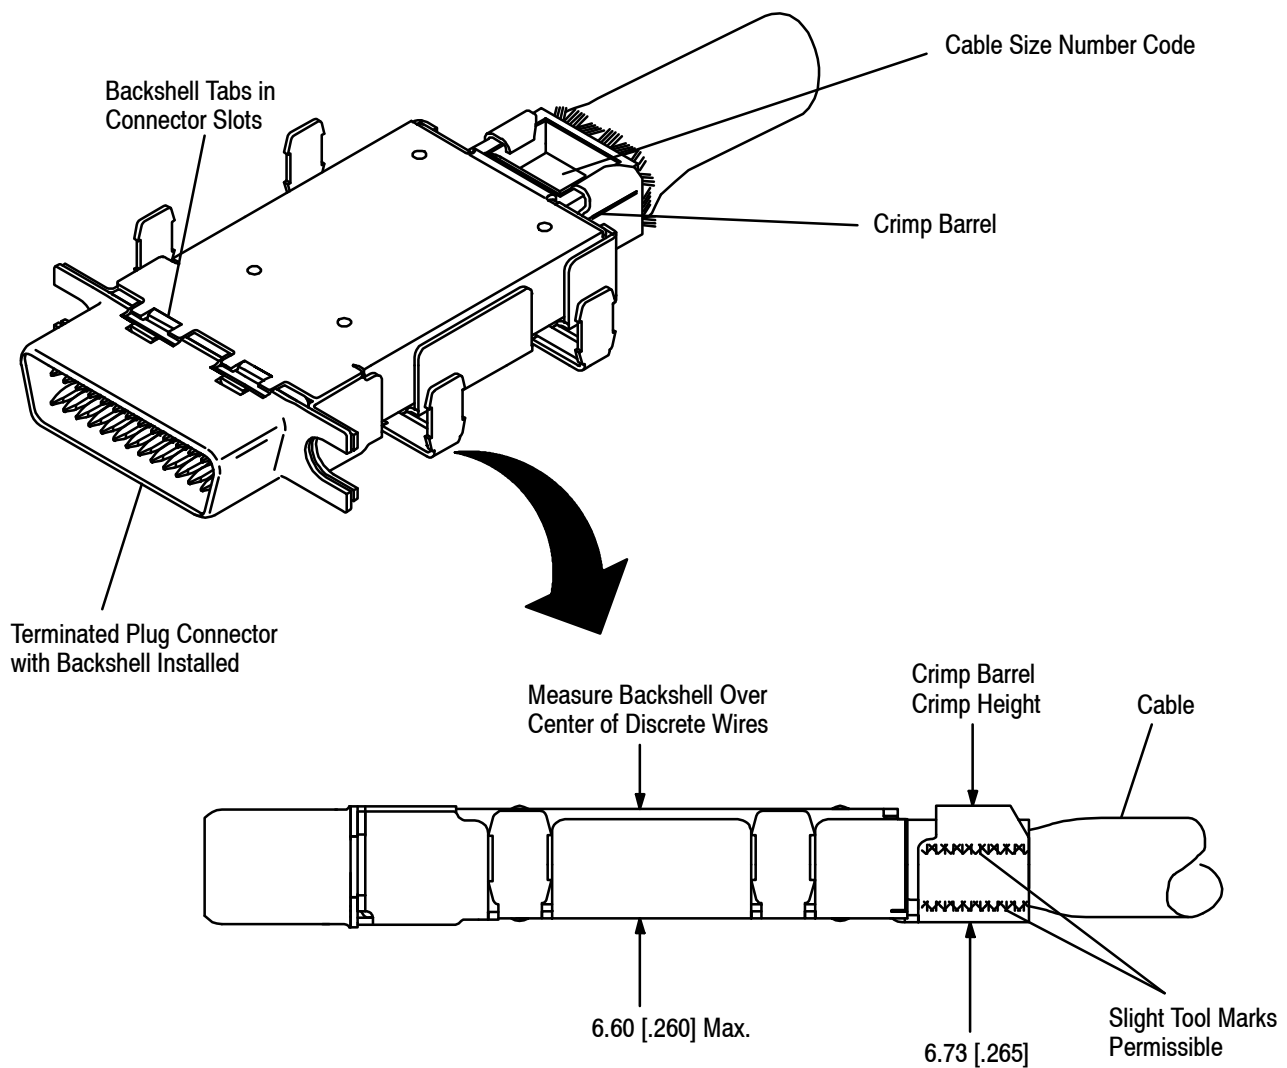

Figure 16
3. The crimp barrel must be crimped to the height shown in Figure 16.